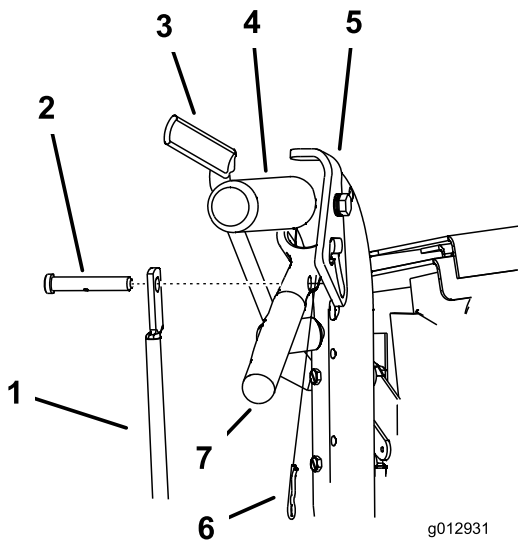

Figure 50
3. Remove the hairpin cotters and clevis pins from the drive levers and neutral locks (Figure 50).